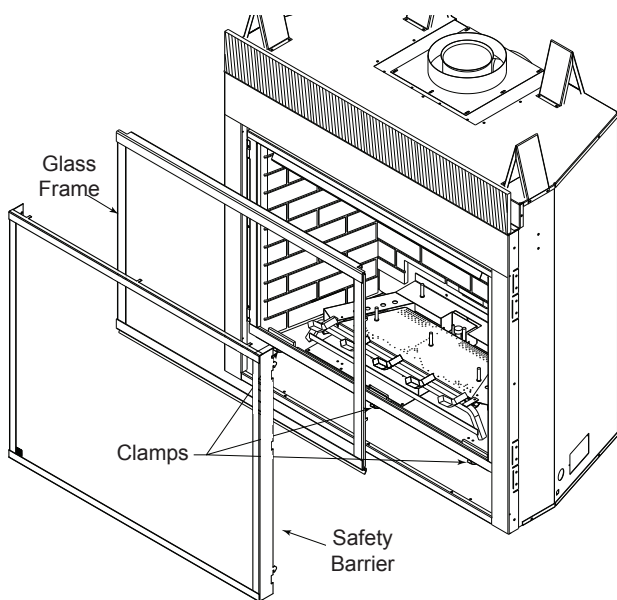

Figure 62 - Remove Glass Frame
1. The RF receiver button located on the Control Board must be in the on position before the learn function can begin. Use paper clip to depress button. One beep for RF receiver ON or two beeps for RF receiver OFF will be given as confirmation. Refer to Figure 62 for location.
2. Release three (3) clamps on bottom of fireplace. *Figure 62*